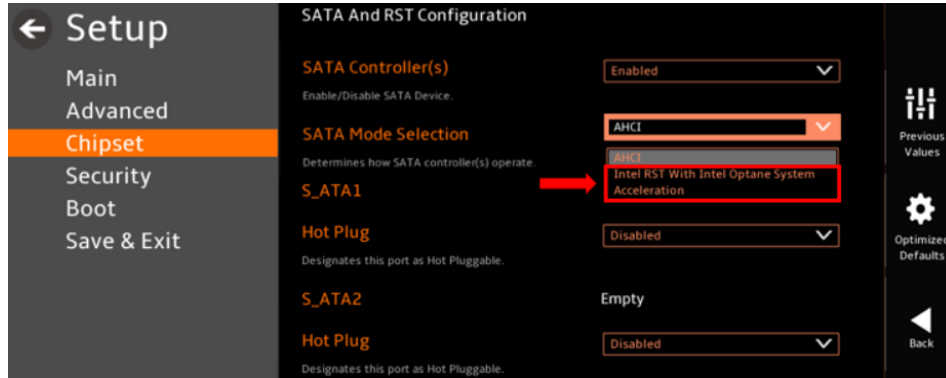

Figure 3-25: RAID Configuration–BIOS Setting (1)
Step 2: Enable the drives in BIOS. Start the computer and access the BIOS setup program. Go to **Chipset** → **PCH-IO Configuration** → **SATA and RST Configuration** → **SATA Mode Selection**. Enable RAID support for all devices (See Figure 3-25).